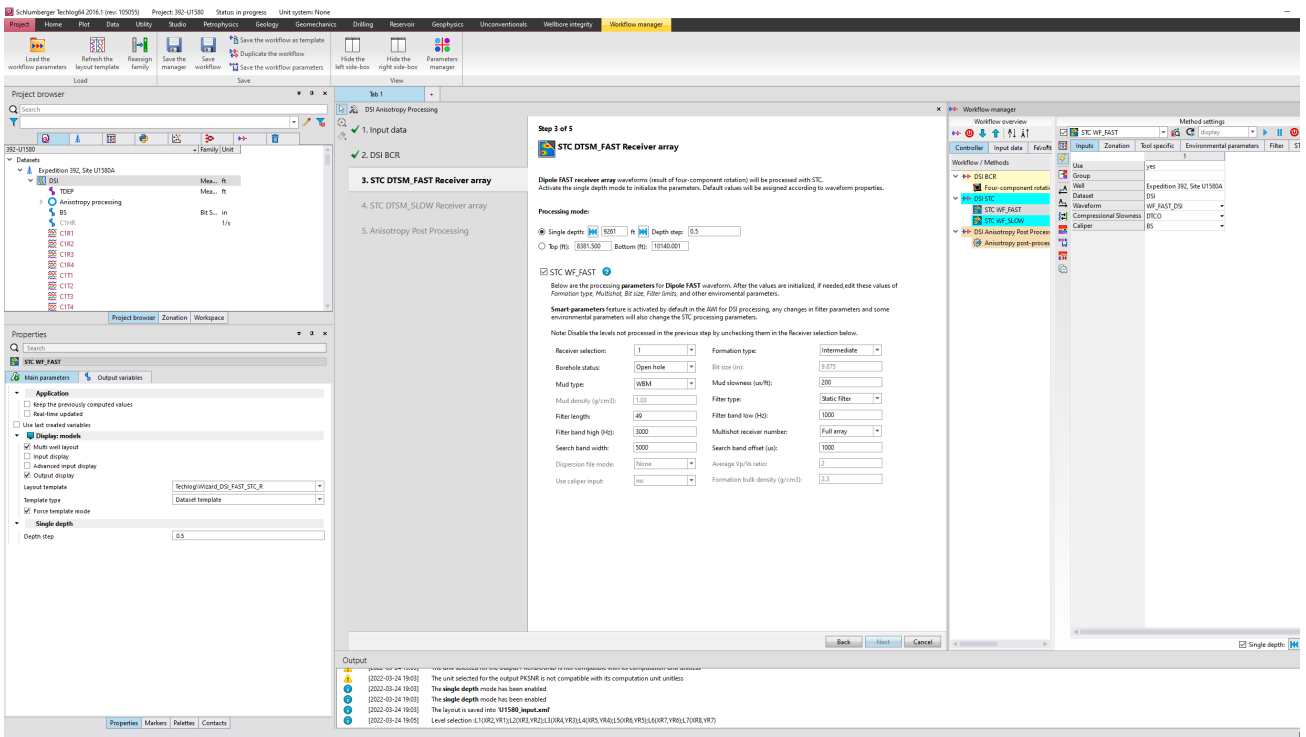

Figure C5: Anisotropy Wizard Step 3 window.
Step 3A: First, go through the single depth processing mode for the entire depth range in order to initialize the parameters. To automatically step through the entire depth, click on the blue fast forward button (Fig. C5)